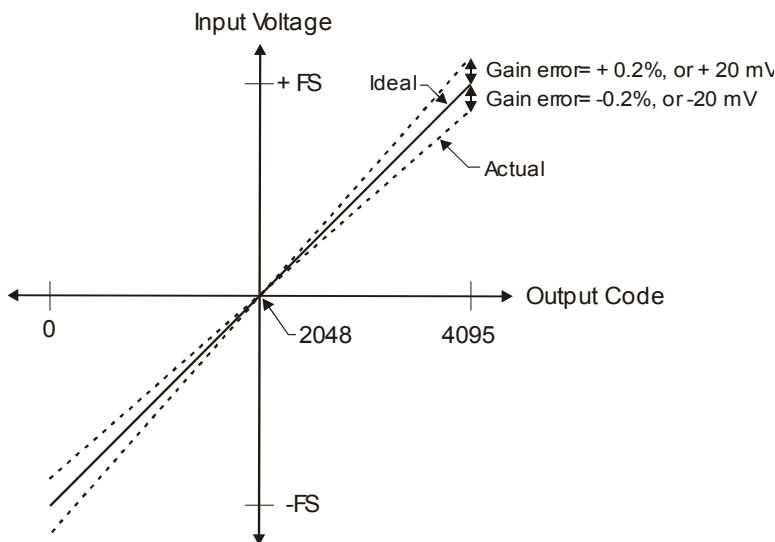

Figure 13. ADC Transfer function with gain error
Gain error is a change in the slope of the transfer function from the ideal, and is typically expressed as a percentage of full-scale. Figure 13 shows the RedLab 1008 transfer function with gain error. Gain error is easily converted to voltage by multiplying the full-scale (FS) input by the error.
The accuracy plots in Figure 13 are drawn for clarity and are not drawn to scale.